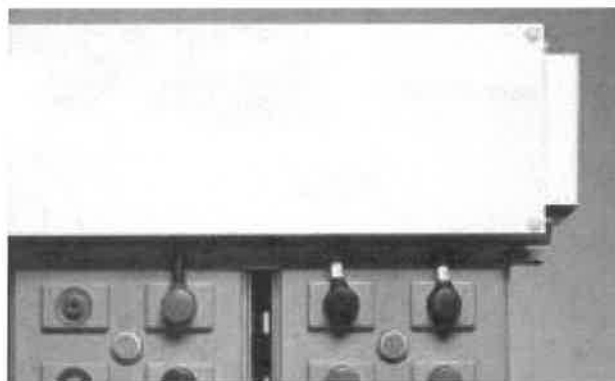

Figure 10: Front panel attached to the four support rods
- e) attach a front panel to the four support rods on each of the modules with the connector sheaths provided, see Fig 10.